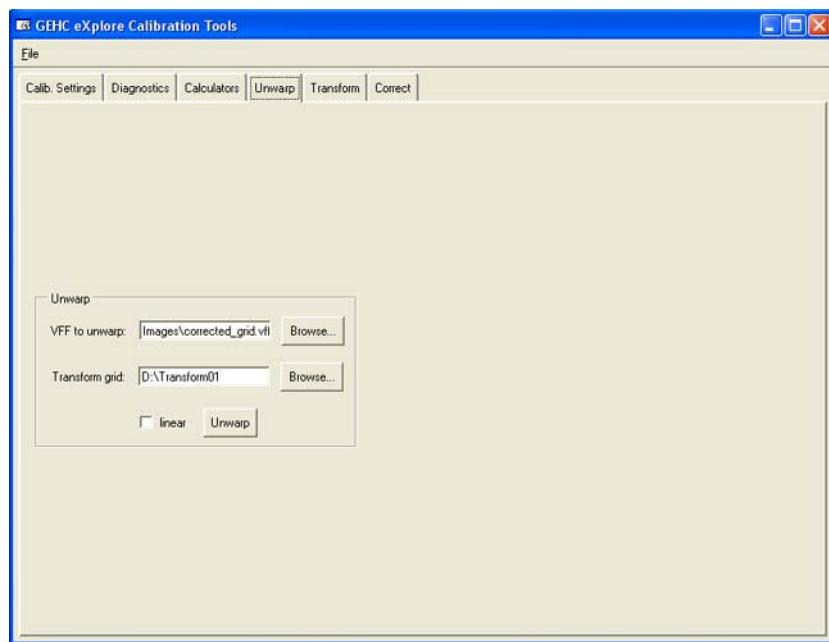

Figure 7-84
- 7.) Access **Calibration Tools**, click the *Unwarp* tab (Figure 7-84) and complete the fields as follows: